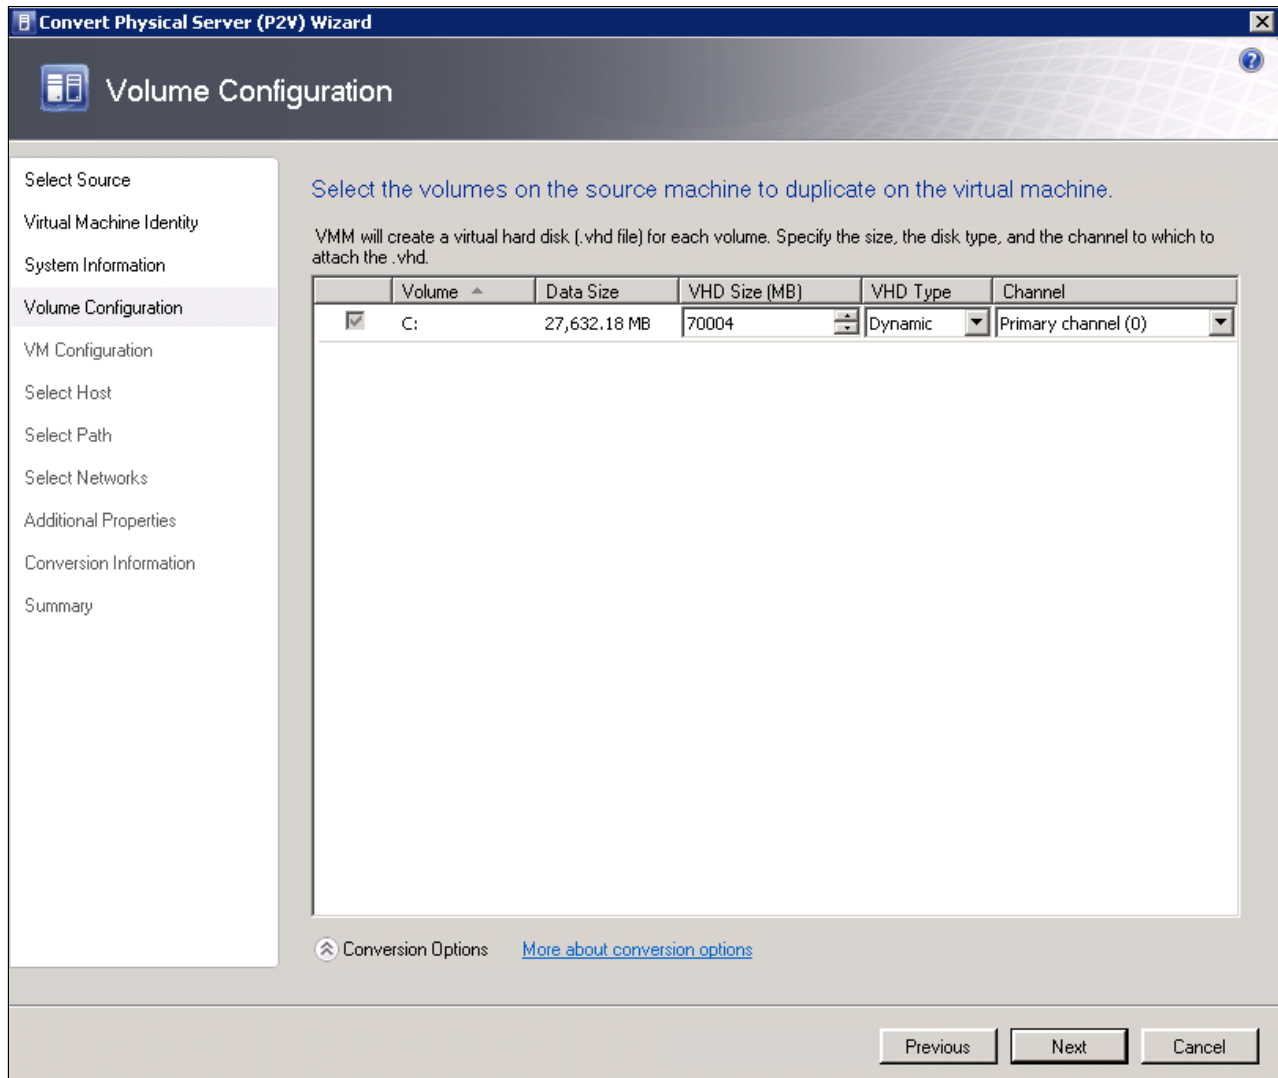

Figure 3-46 SCVMM P2V wizard: Volume Configuration
6. In the Volume Configuration window, select the volumes that are captured on the source machine, as shown in Figure 3-46. Click **Next**.